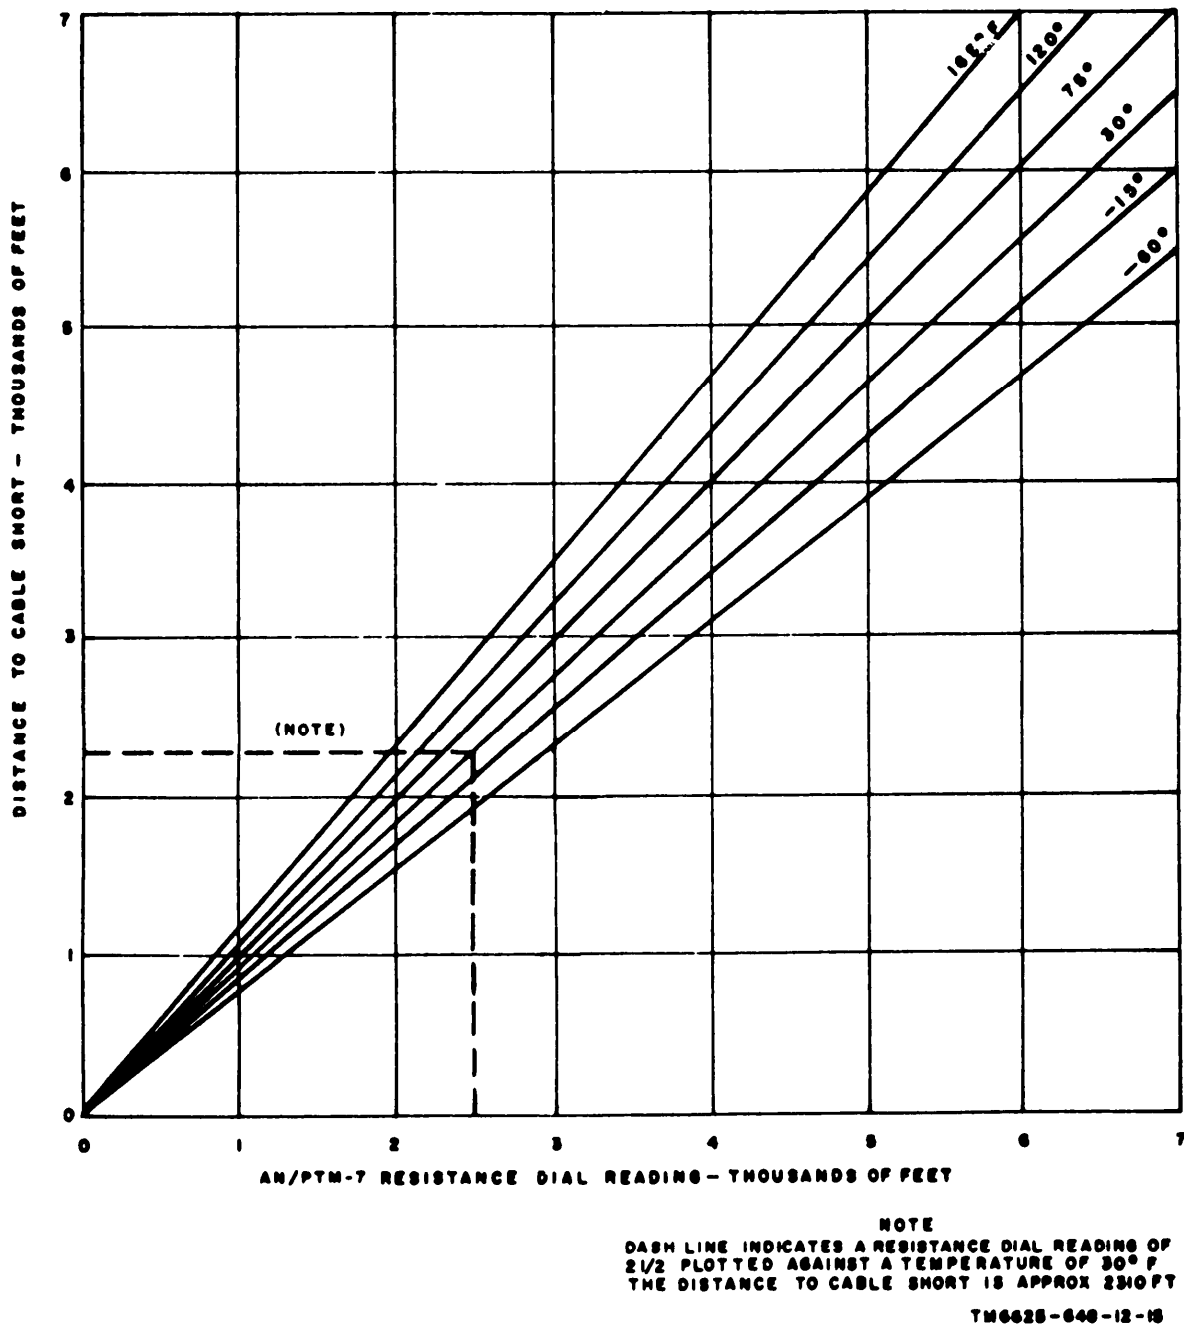

Figure 3-11. CX-4245/G resistance/temperature compensation curves.
- (d) The pointer of the DISTANCE TO FAULT control knob will indicate the approximate distance to the short circuit (in thousands of feet) as indicated by the RES scale (outer scale). The CX-4245/G resistance will vary with changes in the ambient temperature. The results obtained should be plotted against the temperature-compensation curves shown in figure 3-11. The DISTANCE TO FAULT control may be read directly if the cable temperature is 75° F.